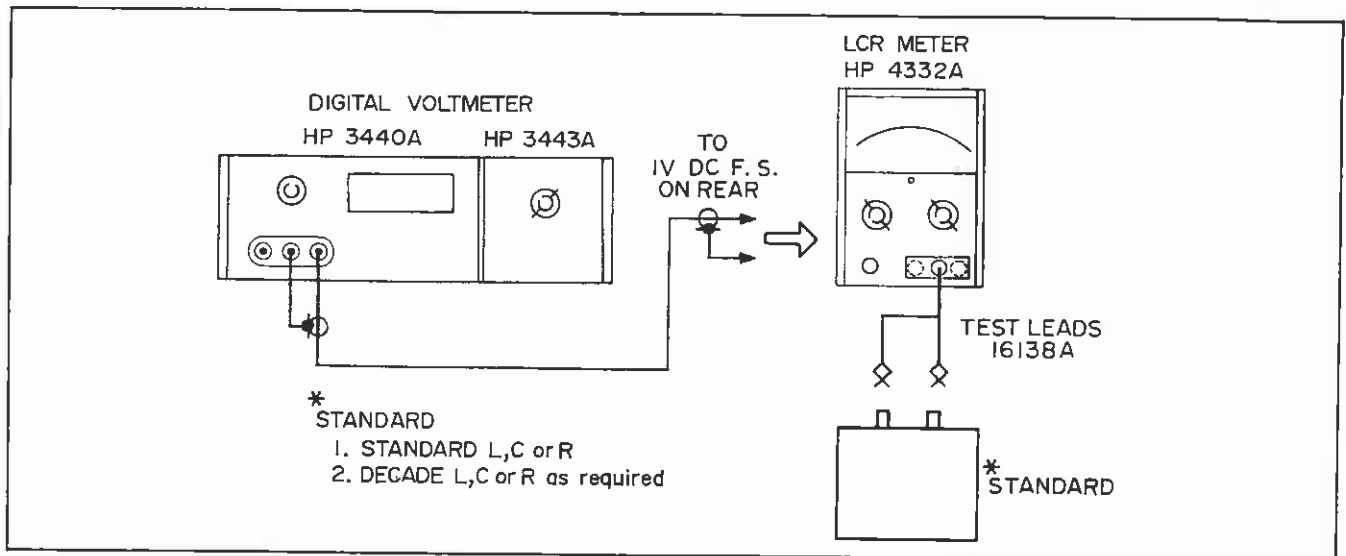

Figure 5-1. General Test Setup for Performance Checks
- a. Connect equipment as shown in Figure 5-1.
- a. Connect equipment as shown in Figure 5-1. Set FUNCTION to R and RANGE to 3kΩ.
- a. Connect equipment as shown in Figure 5-1.*